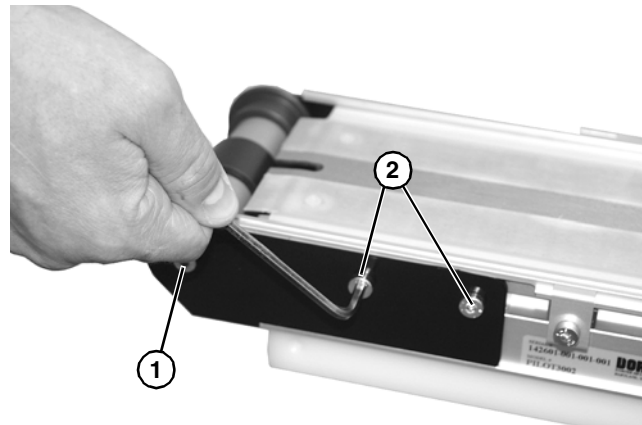

Figure 62
1. On one side of conveyor, remove one (1) fastening screw (Figure 62, item 1).
2. On the same side of conveyor, remove two (2) fastening screws (Figure 62, item 2).